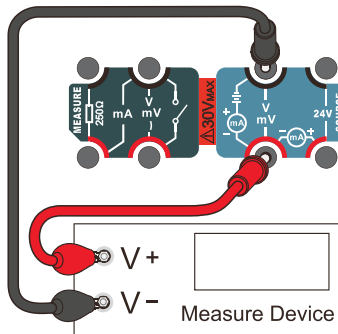

Figure 9.15 V ( mV ) Output
1. In mV voltage source function, user can refer to Figure 9.15 to connect all the test leads and begin to source.
1. In the source voltage function, user can refer to Figure 9.15 to connect all the test leads and begin to source.